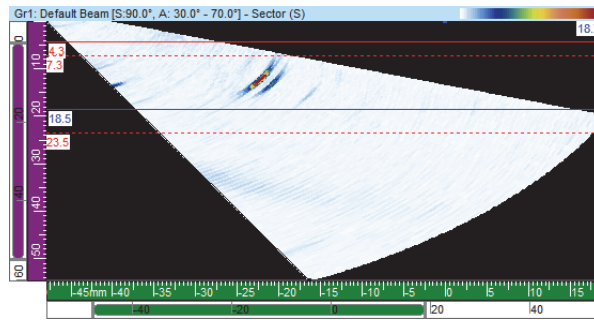

Figure 4-19 Example of cursors around an indication in a Sector (S) view
2. In FocusPC, in a Side (B), End (D), or Sector (S) view, position the Reference (red) and Measurement (blue) cursors respectively above and below the reference reflector of the calibration block (Figure 4-19 on page 116).
4. In FocusPC, in a Side (B), End (D), or Sector (S) view, position the reference (red) and measurement (blue) cursors respectively above and below the reference reflector of the calibration block (Figure 4-19 on page 116).